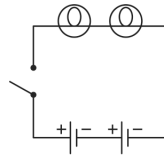

Figure 6.7: Circuit diagram with two bulbs in series.
3. Create a circuit with two bulbs *in series*, as shown in figure 6.7. Compare the brightness of the two lamps to the previous circuit with one lamp.